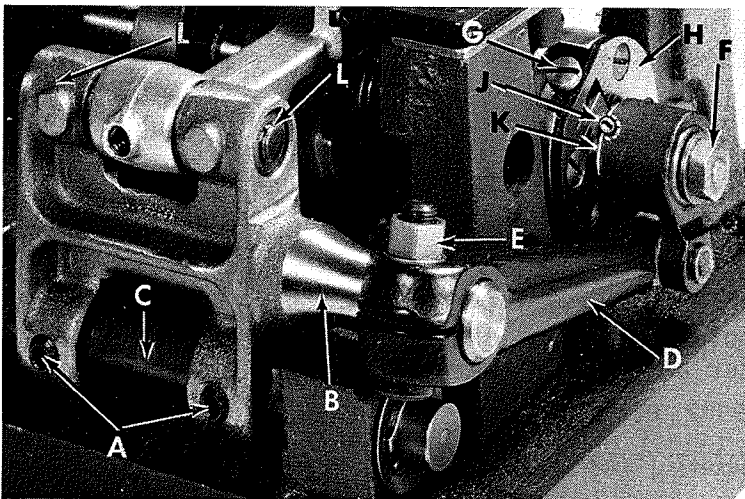

Fig. 11
Should it be necessary to move the feed dog to the left or right, loosen screws (A, Fig. 11) which hold the feed rocker (B) onto the feed rocker shaft (C), and move feed rocker to desired position and retighten screws. Make sure the feed rocker arm (D) does not bind after making this adjustment.
Should it be necessary to move the feed dog forward or backward, loosen nut (E, Fig. 11) which clamps the feed rocker arm to the feed rocker and move the feed rocker forward or backward as needed and retighten nut.
Set the stitch to required length. This is accomplished by loosening locknut (F, Fig. 11)  $\frac{1}{2}$  turn (it has a left hand thread) on the end of the stitch regulating stud and turning the stitch adjusting screw (G) located under the left end of the cloth plate, in the head of main shaft (H), which is marked with "L" and "S". Turning the screw clockwise shortens the stitch (moves stitch regulating stud toward the "S") and turning it in a counterclockwise direction lengthens the stitch (moves stitch regulating stud toward the "L"). Retighten locknut securely. To prevent destructive damage to the feed drive bearing, Key screw (J) must engage the "U" shaped key slot in ferrule (K).
Machines having needle bearings in the feed rocker at locations (L, Fig. 11) may require repacking after years of service. Bearings should be thoroughly cleaned and repacked with Union Special Corporation grease No. 28604 P.